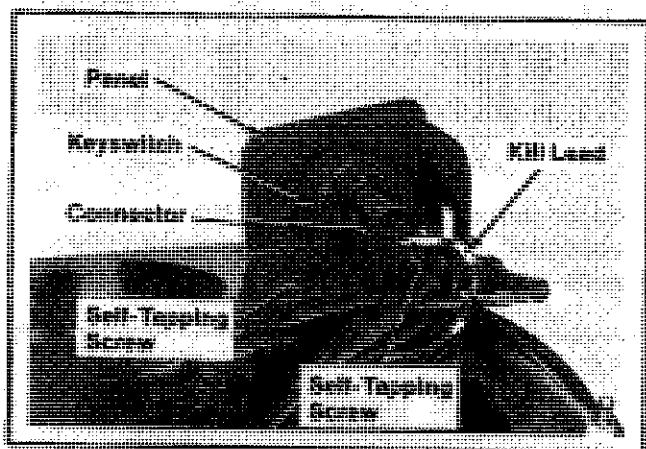

Figure 11-44. Installing Keyswitch.
2. Install the panel with keyswitch and self-tapping screws. Install the kill lead to connector. Install the connector to back of keyswitch. Refer to Figure 11-44.